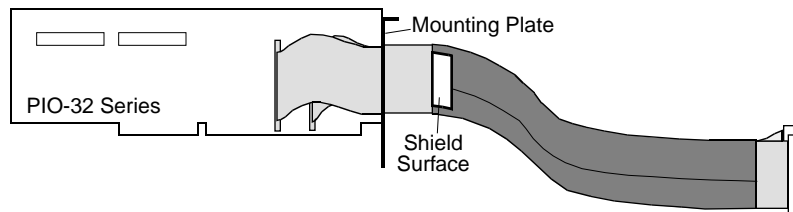

Figure 5. Jacket with Flaps Folded Back to Expose Shield Surface
6. Fold the flaps back on both sides of cabling to expose the shield surface, as shown in Figure 5.